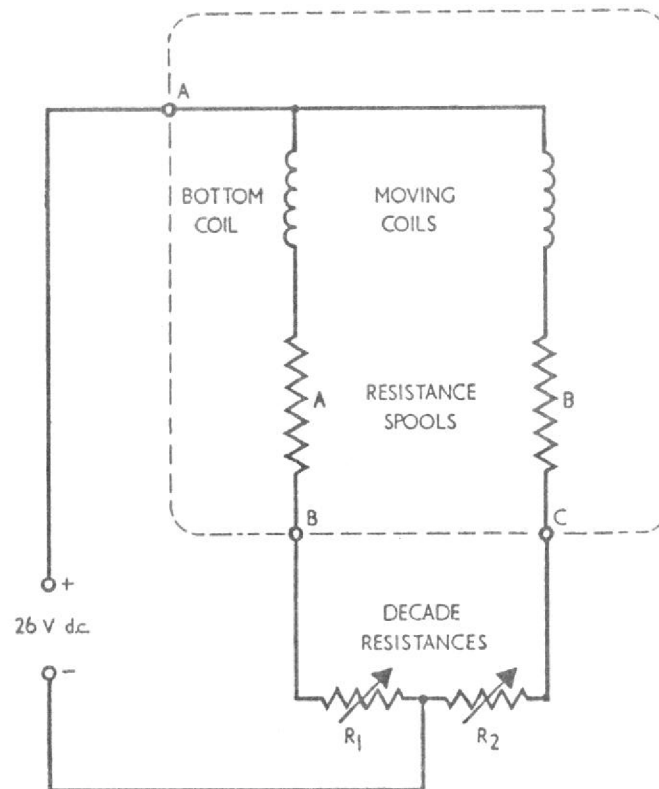

Fig.9 Calibration circuit diagram
- (1) Connect the indicator into the circuit given in Fig.9.
- (2) If scale end indications are incorrect after overhaul, adjust spools A and B as instructed in paragraph 8 (Testing) of the main section.
- (3) If necessary, recalibrate the indicator using the values given in the accompanying Calibration Table.